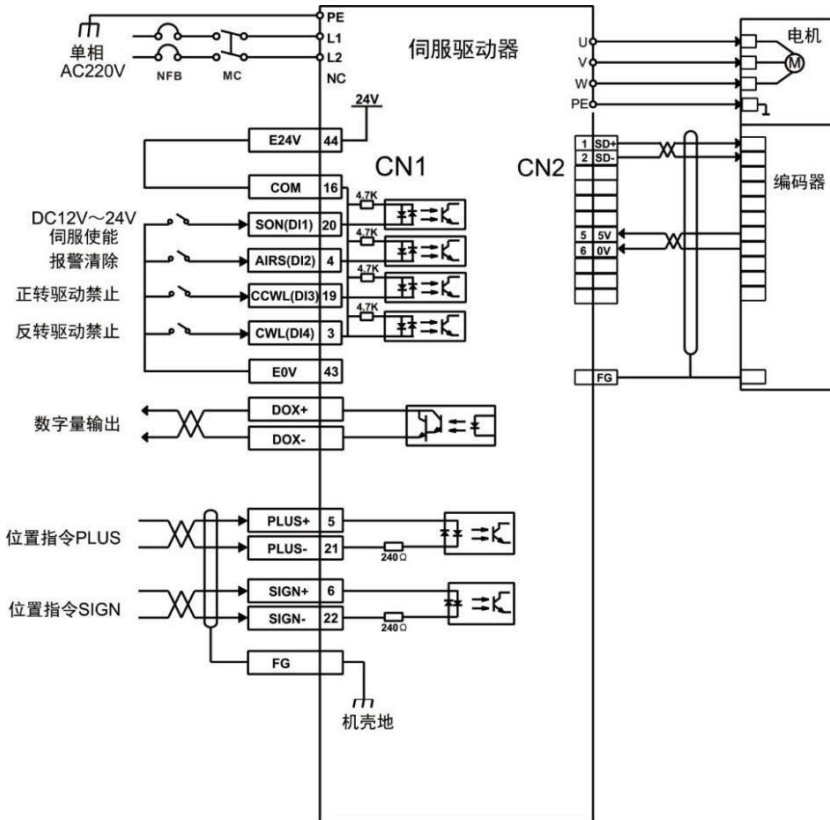

Figure 5.2 Position Mode Wiring Diagram
- 3) Refer to Figure 5.2 for wiring instructions to connect the pulse direction input and pulse command input in the CN1 terminal as well as the required DI/DO signals, such as servo enable, alarm clear, and positioning completion signals.